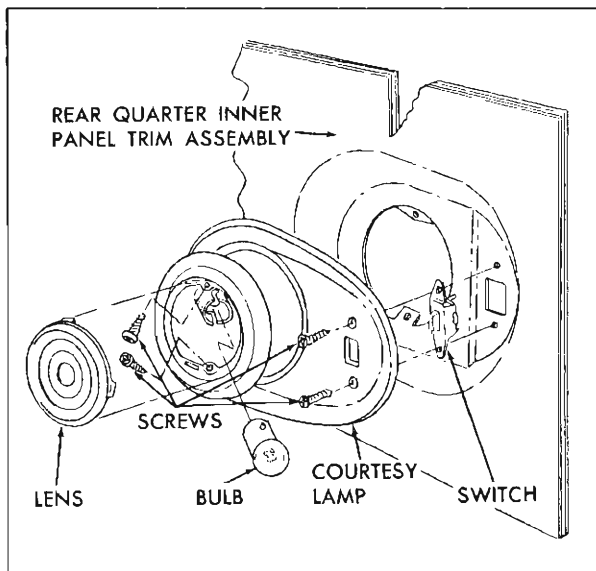

Fig. 4-14 Rear Quarter Courtesy Light
1. On "45" style, remove screws securing courtesy lamp and switch assembly to trim panel and carefully remove assembly sufficiently to disengage wires at rear of lamp and switch. Remove rear finishing panel (Fig. 4-14).